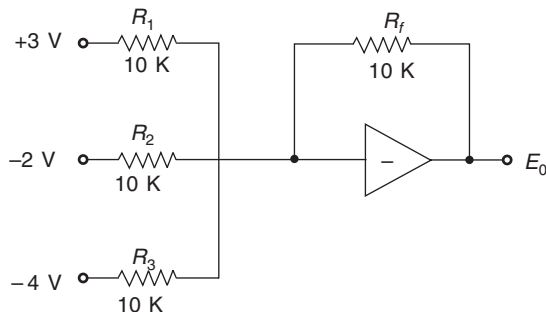

Fig. 17.28
11. Compute the output voltage for the circuit in Fig. 17.28.